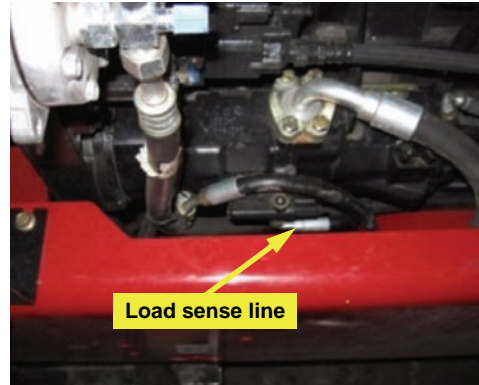

Figure 4b: Pump load sense line
b. Locate the front hydraulic pump on the front left side of the engine. Locate the load sense line (Figure 4b).